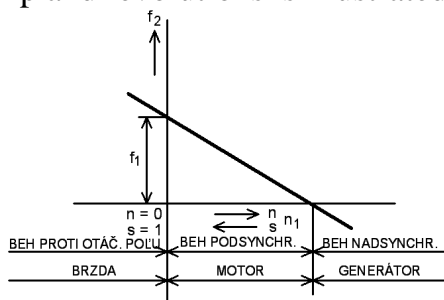
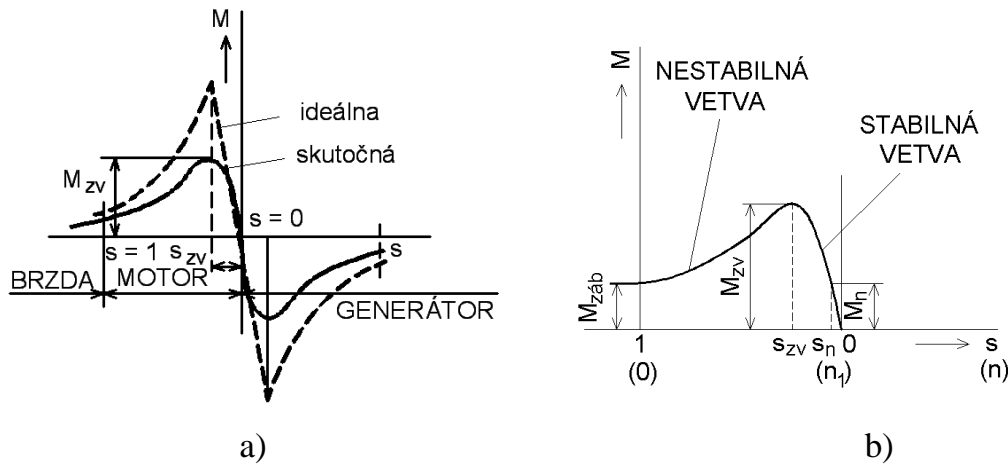

Fig. 3 Dependency of frequency on slip and revolutions
Fig 5 Torque dependency on slip of: a) asynchronous machine b) asynchronous motor
Dependency of frequency f_2 on slip and revolutions is illustrated in Fig. 3
Fig. 3 illustrates three basic operation states of asynchronous machine, i.e. in function like a motor, generator and brake.
Calculation of torque magnitude of asynchronous machine is performed according to expression (23), in which the power in air gap P_d is calculated from the electric values of machine substitution diagram. Their mutual relation expresses the torque characteristics. There is illustrated the objected characteristics of asynchronous machine On Fig. 5.
Similarly as from the progress of function $f_2 = f(s)$ (Fig. 3) also from Fig. 5 result 3 operation states of asynchronous machine. In the slip range $0 < s < 1$ works in sub-synchronous state, therefore in function of motor. Motor cannot reach synchronous revolutions ($s = 0$), because in this state the relative rotor motion compared to the field would be equal to zero, in its conductors wouldn't be induced any voltage, through the conductors wouldn't flow any current, so there wouldn't influence any mechanic force, that initiate torque on the shaft. In function of generator the asynchronous machine works in that case, if on the rotor is transported mechanical energy through the driving machine, by which the rotor can rotate with over-synchronous revolutions ($n_2 > n_1$; $s < 0$). Mechanical rotor energy is through the magnetic field (by electromagnetic induction) changed in stator winding to electric form, from where it is transferred to supply system. In comparison to motor, in generator there is occurred the change of energy flow direction, what requires the change of meaning of relative conductor motion of rotor in comparison to rotating field. This fact is achieving by over-synchronous revolutions of asynchronous machine (by slip changing), which in this state develops the generator (brake) torque. This two-direction change of these conversion energy forms is denoted as the **principle of electric machine reversibility**.